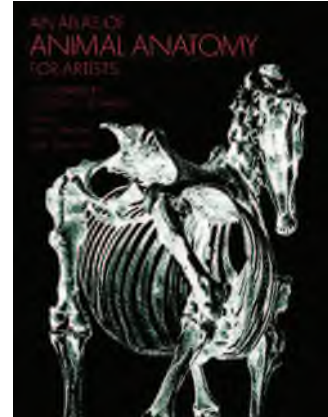

FIG. 6-3 *An Atlas of Animal Anatomy for Artists*.
- *An Atlas of Animal Anatomy for Artists*, by Frances A. Davis, Dover Publications (Figure 6-3)